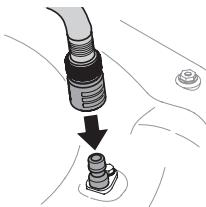

Figure 24
- Attach garden hose with the deck wash nozzle to the water port on your deck's surface (Figure 24).